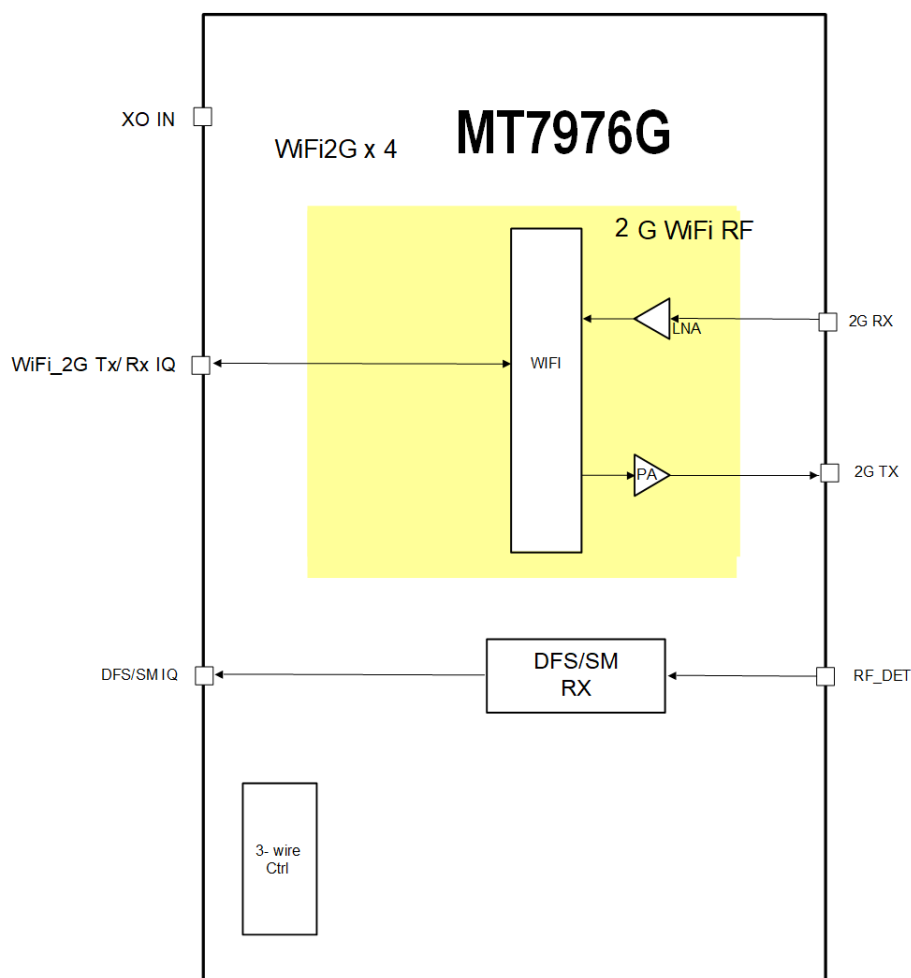

Figure 1-1. MT7976GN block diagram
MT7976GN is an IEEE WiFi 6/7 MIMO RF chip which contains 2.4 GHz WI-Fi transceiver front-ends in a DRQFN package. Dedicated Dynamic Frequency Selection(DFS) and Spectrum Monitor(SM) receivers are included to support coexist with 5GHz radar or other 2.4G WIFI systems. Simplified block diagram and how MT7976GN is used are shown in Figure 1-1. The top control logics control each subsystem independently. Each subsystem also has dedicated LDOs. A thermal sensor and a low-speed ADC (Analog-to-Digital Converter) are provided to monitor MT7976GN's temperature variation. MT7976GN has its dedicated crystal oscillator (XO) circuit. Besides, XO circuit provides an external clock source to other chips in the platform.